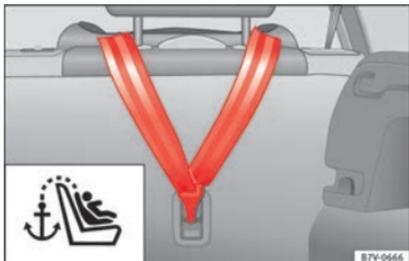

Fig. 39 Upper retaining strap hooked in the luggage compartment
- Hook the upper retaining strap to the corresponding retaining ring (for Top Tether) on the back of the seat backrest on the rear seat » **Fig. 39**.